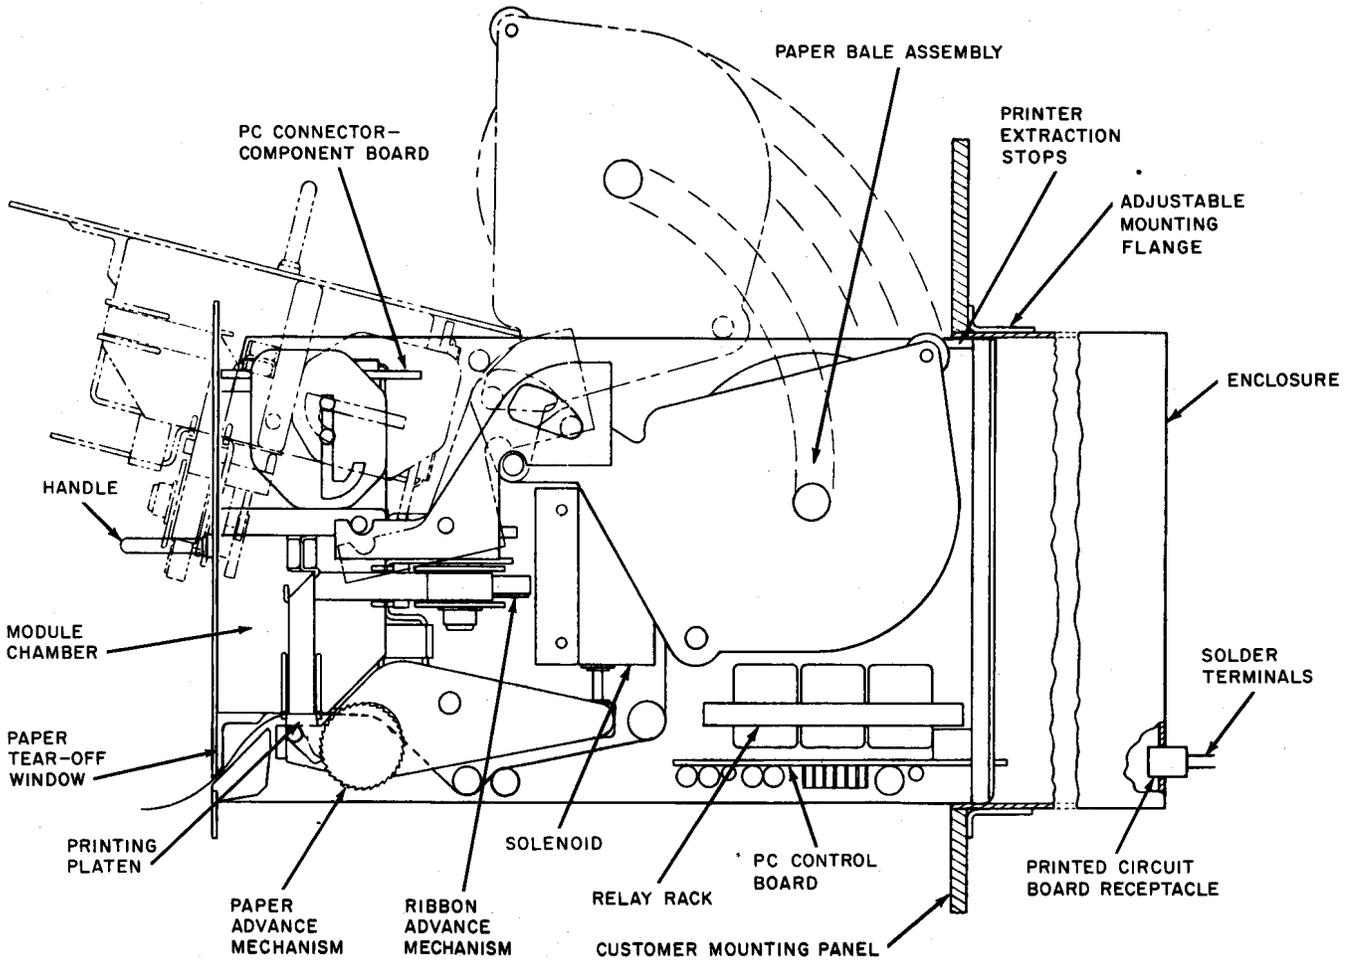
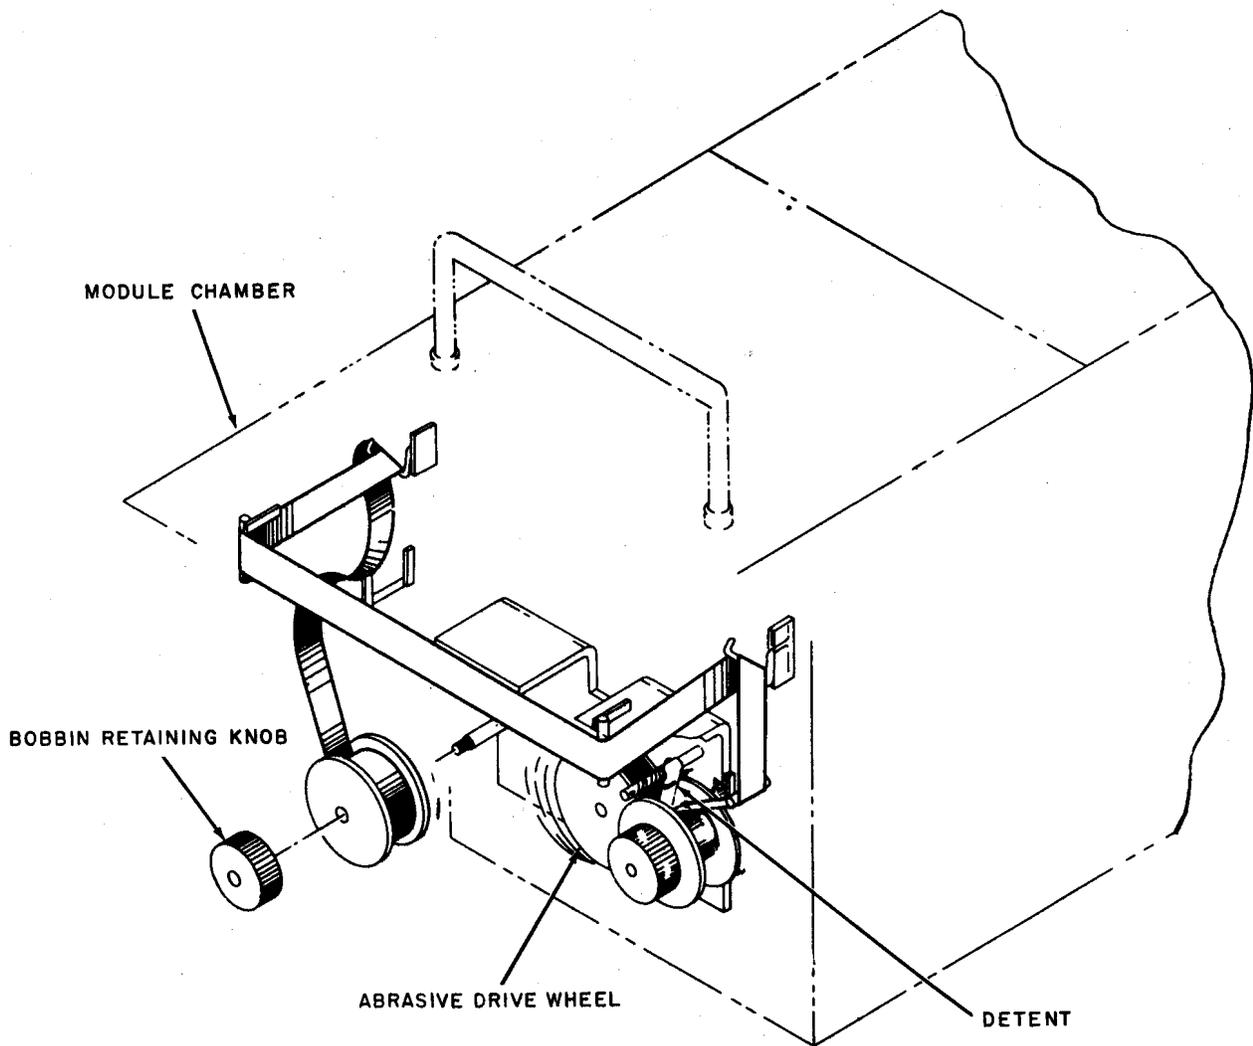

Fig. 1—Component Parts
Fig. 3—Ribbon Path and Replacement
2.01 Using Fig. 1 as a guide, perform the following operations.
- (1) With module chamber in open, or horizontal position as shown in Fig. 1 and 3, remove bobbin retaining knobs.
- (2) Swing abrasive drive wheel against the smaller diameter bobbin. In order for the larger bobbin to clear the abrasive wheel, it may be necessary to manually decrease the windings on the smaller bobbin.
- (3) Swing detent away from larger bobbin and remove.
- (4) With larger bobbin removed, swing abrasive drive wheel to empty side.
- (5) Remove remaining bobbin in same manner.
- (6) Install new ribbon reversing the procedure of the preceding steps. Thread the ribbon as shown in Fig. 3.
- (7) Manually depress the ribbon actuator several times to take up slack and to ensure that new ribbon is not snagged.
- (8) With front plate back in operating position, place module chamber partly back in enclosure.
- (9) Depress solenoid several times observing that ribbon bobbins are advancing.